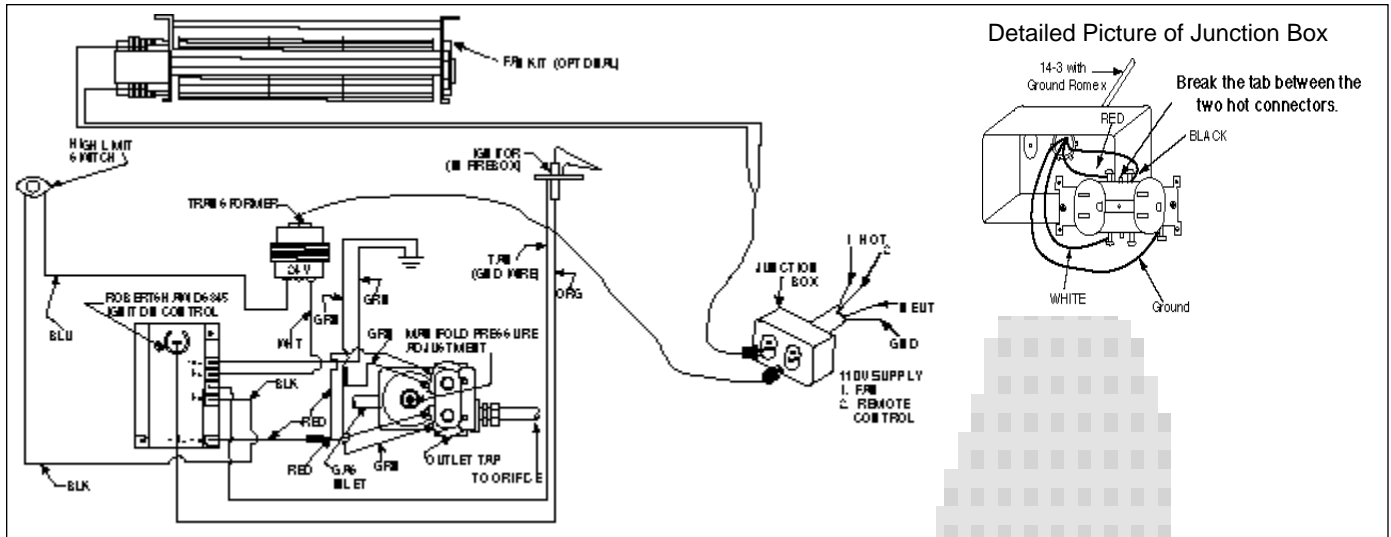

Figure 12
1. Appliance Requirements. This appliance requires a 110VAC supply from a wall switch to the appliance junction box for operation. A wiring diagram is shown in *Figure 12*.